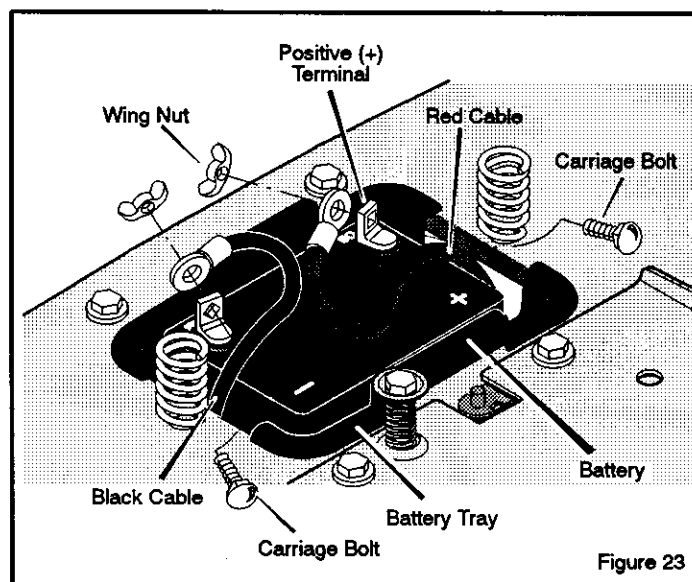

Figure 23
1. Disconnect the black cable from the negative (-) terminal (Figure 23).